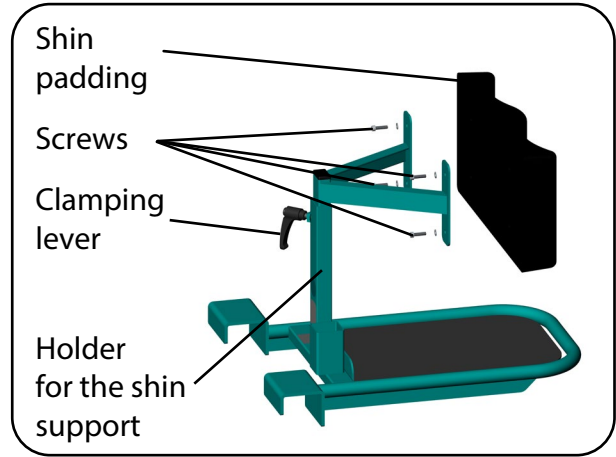

Fig. 6.4.01 – Removing the shin padding
1. Loosen the four screws on the shin support and remove the shin padding from the shin support (Fig. 6.4.01).